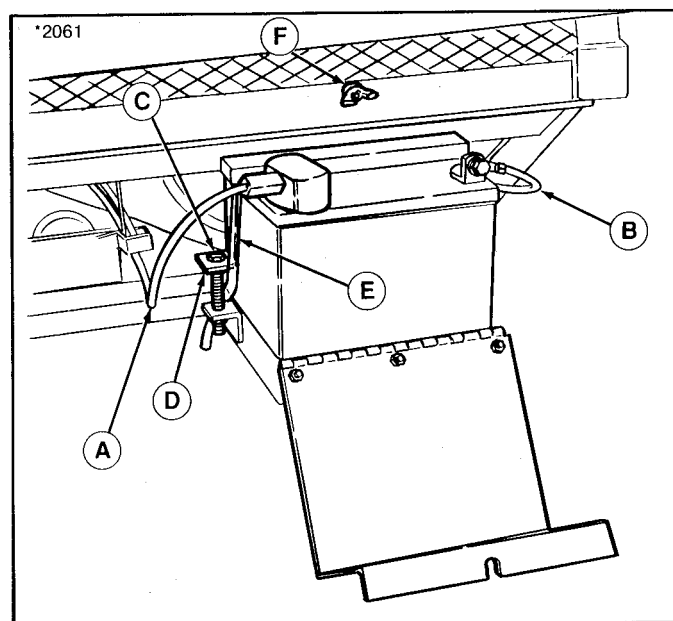

Figure 7. Battery
1. Open battery compartment by removing wing nut (F, figure 7) and washer. Disconnect the cables from the battery, negative cable first. A positive "+" sign is stamped on the battery next to the positive terminal.
2. Remove the two capscrews (C) securing the clamp. Remove the battery.